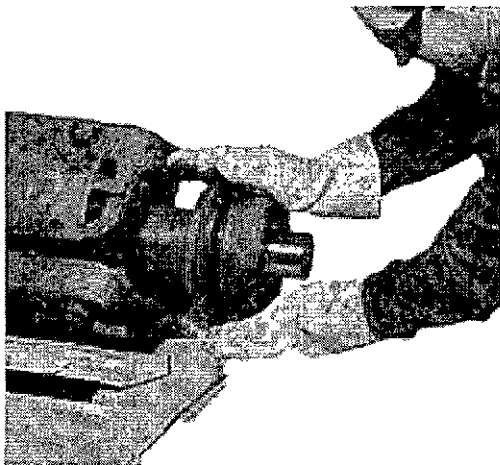

Figure 6-44
3. To insure proper fan location, mark the new hub in the same place as the old hub relative to the keyway. Install key in shaft. Heat the new hub in an oven to 500°-600°F (260°-316°C). Use suitable heat resistant gloves, slide the hub over the key in the shaft until it seats against the shaft shoulder. (Figure 6-44.)